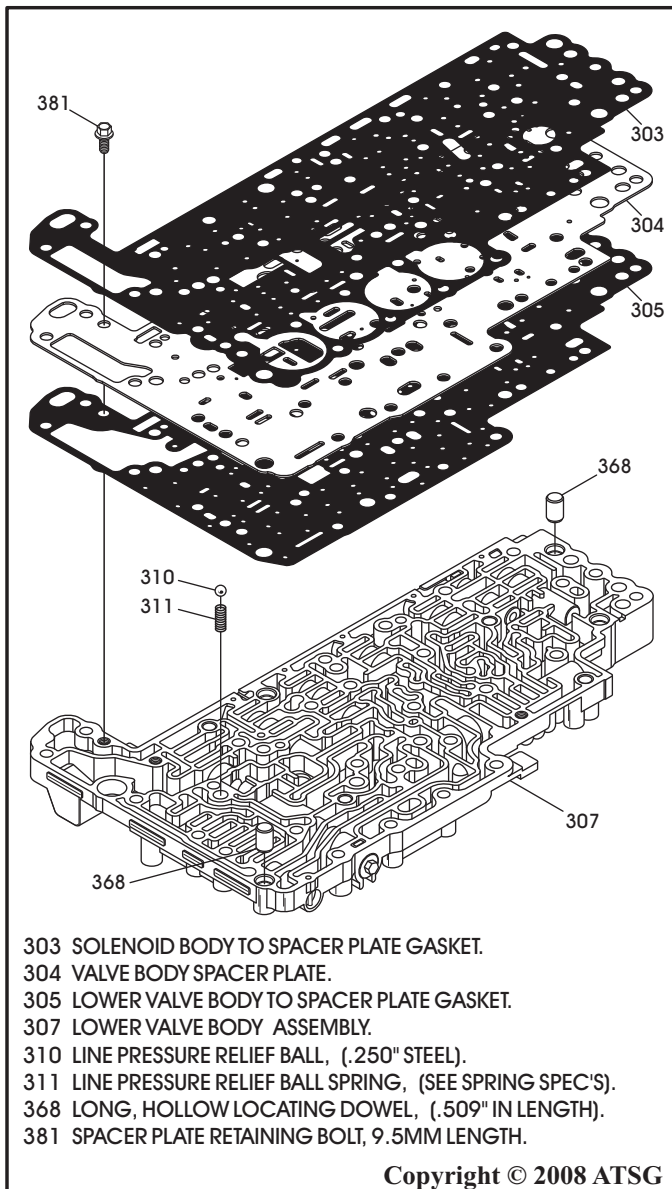

Figure 168
15. Install two long, hollow locating dowels in the locations shown in Figure 168.
17. Install spacer plate to lower valve body gasket over locating dowels, as shown in Figure 168.
18. Install the valve body spacer plate, as shown in Figure 168, install retaining bolt and torque to 7 N•m (62 in.lb.).
19. Install the spacer plate to solenoid body gasket as shown in Figure 168.